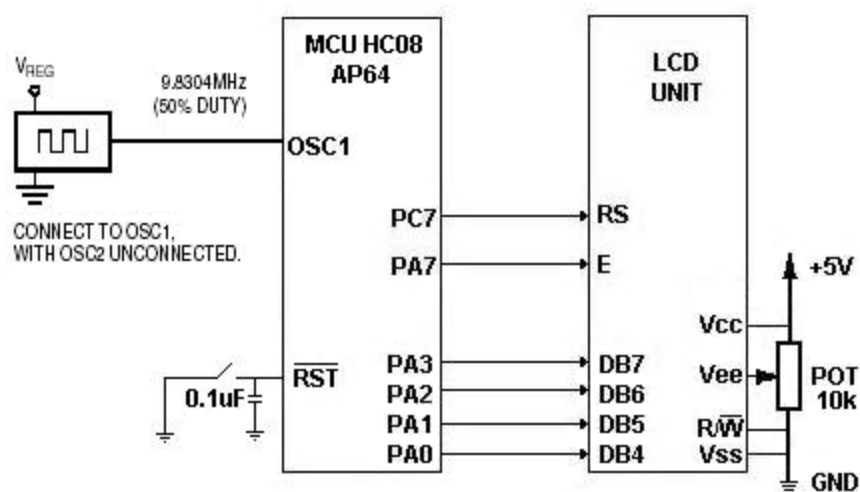

Figure 2. Pin-Out Control Connection
- Pin connection configured to control the LCD (see Figure 2)